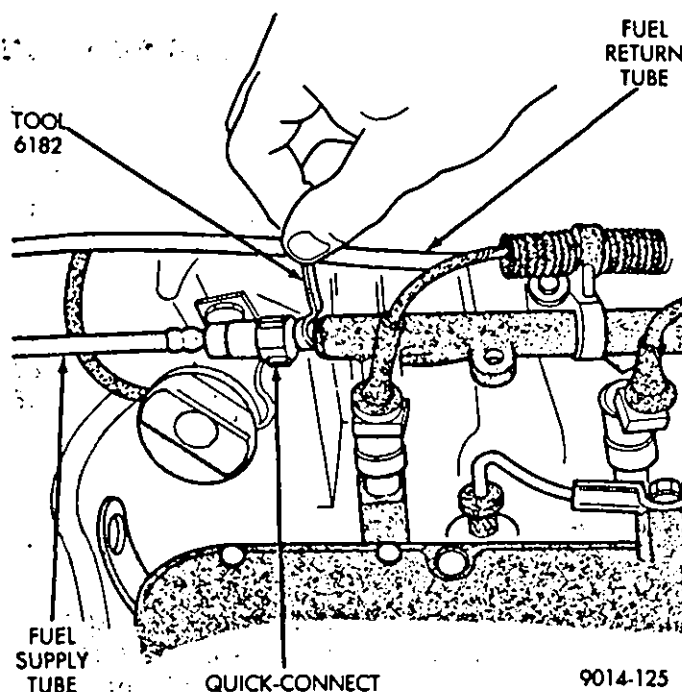

Fig. 42—Disconnecting Fuel Supply Tube at Fuel Rail—MPI
- Terminal No. 30 is usually connected to battery voltage and can be switched or B+ at all times (Fig. 42).
(2) Use tool 6182 to remove the black fuel supply tube from the fuel rail (Fig. 42). Slide the tool over the nipple and up into the connector until the handle fits the connector. Pull the fuel supply tube off of the fuel rail.
(3) Install fuel line adaptor, tool number 6175.
(4) Push the female end with the quick-connect fitting over the fuel rail until a click is heard. Pull the connector back to ensure that it is locked in place.
(5) Push the male end with the nipple into the black fuel supply tube until a click is heard. Pull the nipple back to ensure that it is locked in place.
(6) Attach the 0-60 psi gauge from fuel gauge set 5069 or equivalent to the port on fuel tube adapter 6175.
(7) Start the engine and check the fuel pressure. It should be 193-207 kPa (28-30 psi).